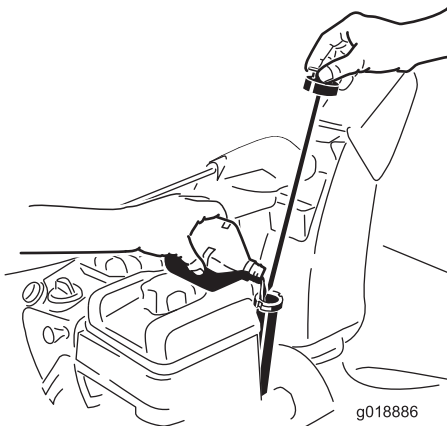

Figure 36
2. Remove the dipstick and check the oil level (Figure 36). If the oil level is below the Add mark on the dipstick, add oil. Refer to Filling the Engine with Oil.